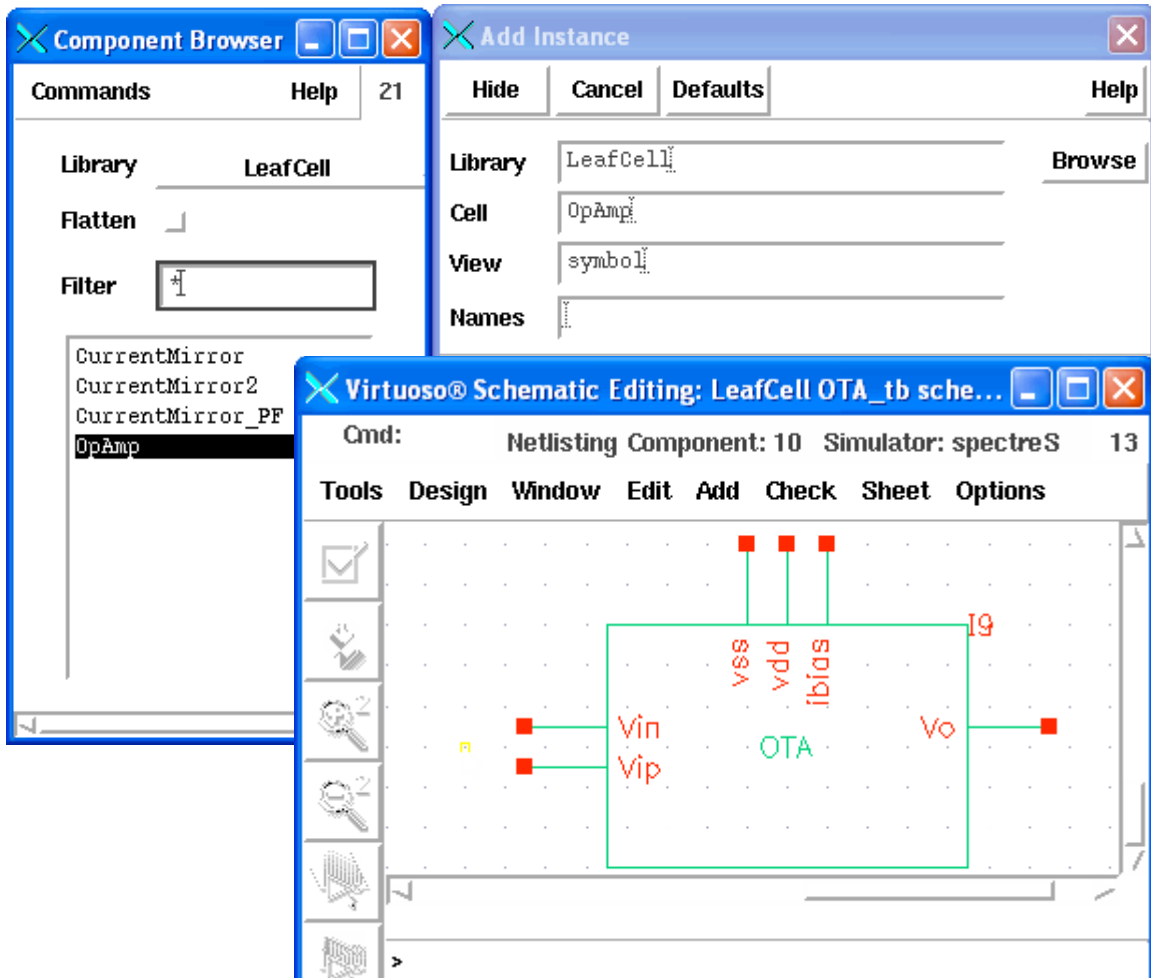

Figure 140: Adding the OpAmp and stamping it down into the OTA test bench.
8. Inserting the OpAmp into the testbench (Figure 140)